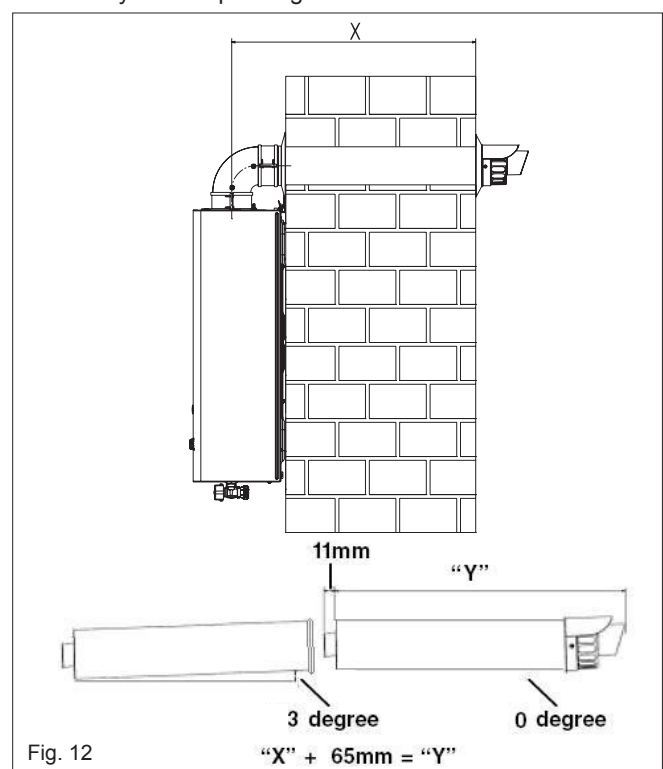

Fig. 12
Carefully measure the distance from the centre of the appliance flue outlet to the edge of the finished outside wall (dimension X). Add 65mm to dimension X to give you Dimension Y (see fig. 12). Measure dimension Y from the terminal end of the concentric flue pipe and cut off the excess ensuring any burrs are removed.
**NOTE:** ensure that the outlet of the flue terminal is correctly orientated as shown in fig. 12.